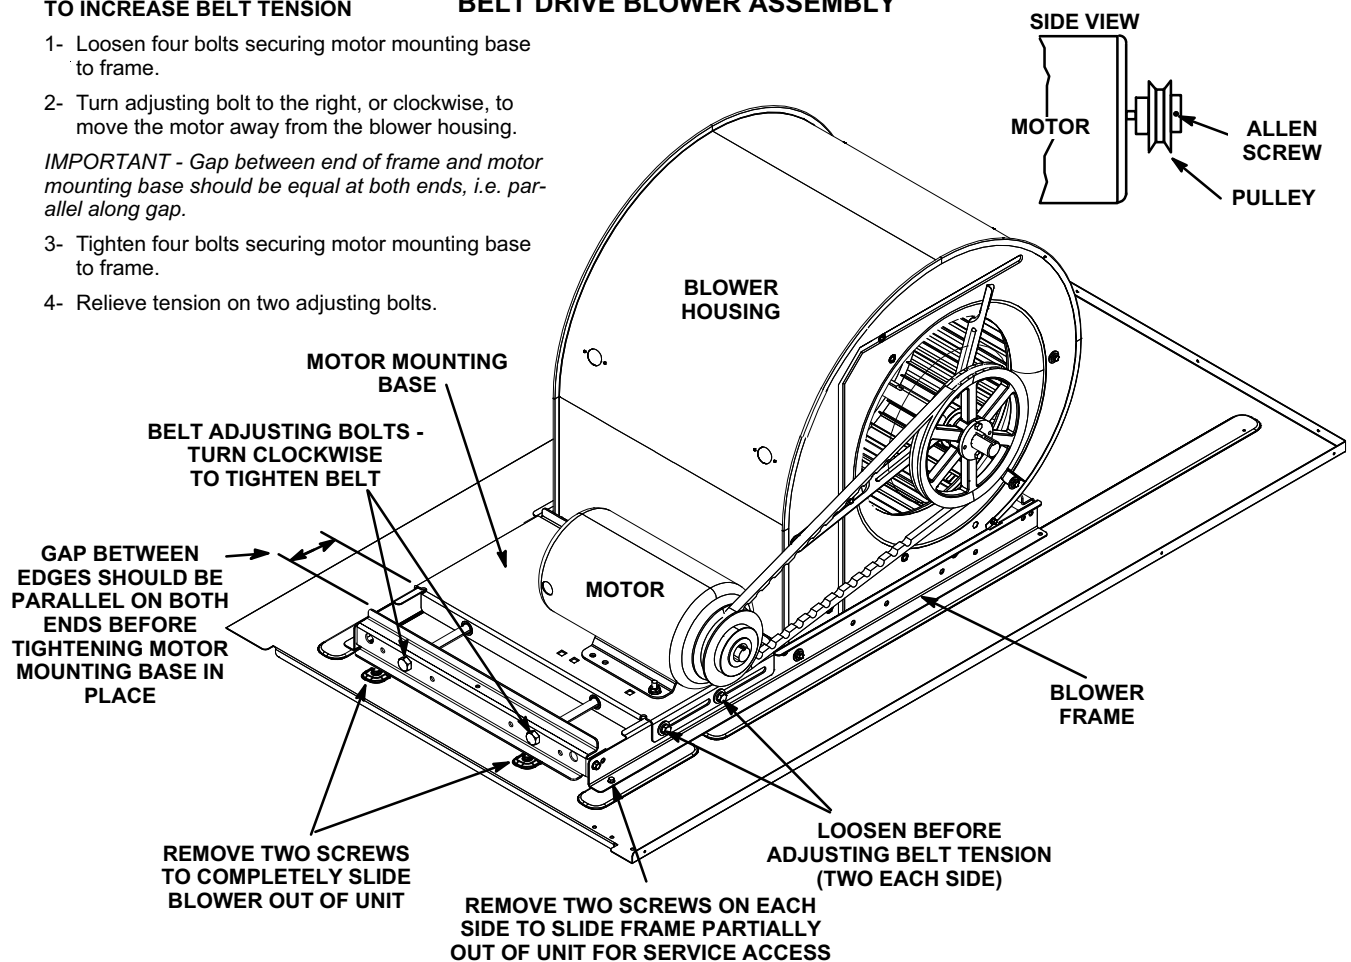

FIGURE 19
The blower assembly is secured to a sliding frame which allows the blower motor assembly to be pulled out of the unit. See figure 19, 20 or 21.
The blower RPM can be adjusted at the motor pulley. Loosen Allen screw and turn adjustable pulley clockwise to increase CFM. Turn counterclockwise to decrease CFM. See figure 19. Do not exceed minimum and maximum number of pulley turns as shown in table 4.
- 1- Loosen four bolts securing motor base to mounting frame. See figure 19.